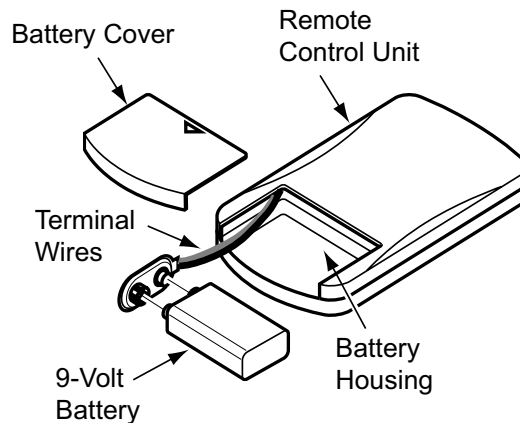

Figure 19 - Installing Battery in Hand-Held Control Unit (HRC100 Series)
2. Attach terminal wires to a 9-volt alkaline battery (not included). Place battery into the battery housing. (see **Figure 19**).